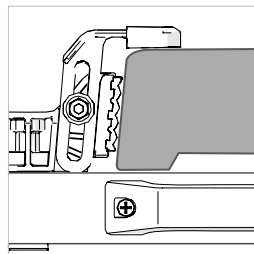

Fig. 19
If your saw base does NOT have a lip that protrudes under the clamp, then the secondary clamp MUST be attached to secure the base from the top. (Fig. 19)
- Place the chop saw onto the table with the right hand (RH) edge of the machine's base resting against the two fixed clamps.
- If necessary adjust the secondary clamps to provide enhanced positive location and extra grip to the upper surface of the chop saw base. (Fig.19) Tighten these in place using the supplied hex key.